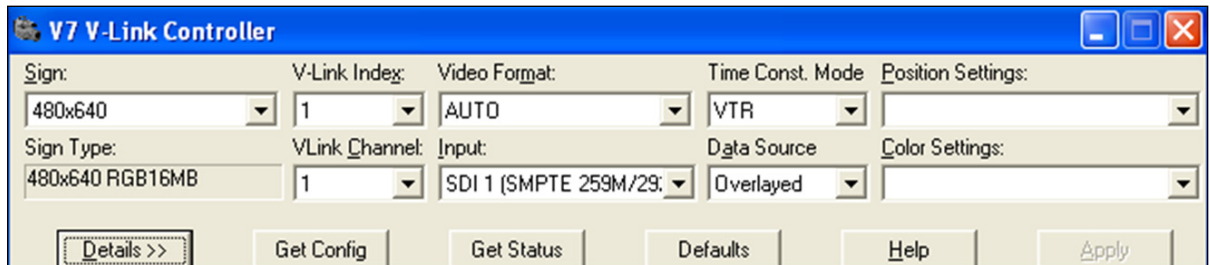

Figure 7: V7 V-Link Controller Dialog Box
1. Open the V7 V-Link® controller application in the Venus® 7000 shell by clicking the **V-Link** icon or by pressing **V**. The **V7 V-Link Controller** dialog box opens; refer to **Figure 7**.
After the **V7 V-Link Controller** dialog box opens, as shown in **Figure 7**, video immediately displays on the default sign. Before an event, change the data source to the DMP-7000 controller. To change the data source, follow the steps below: